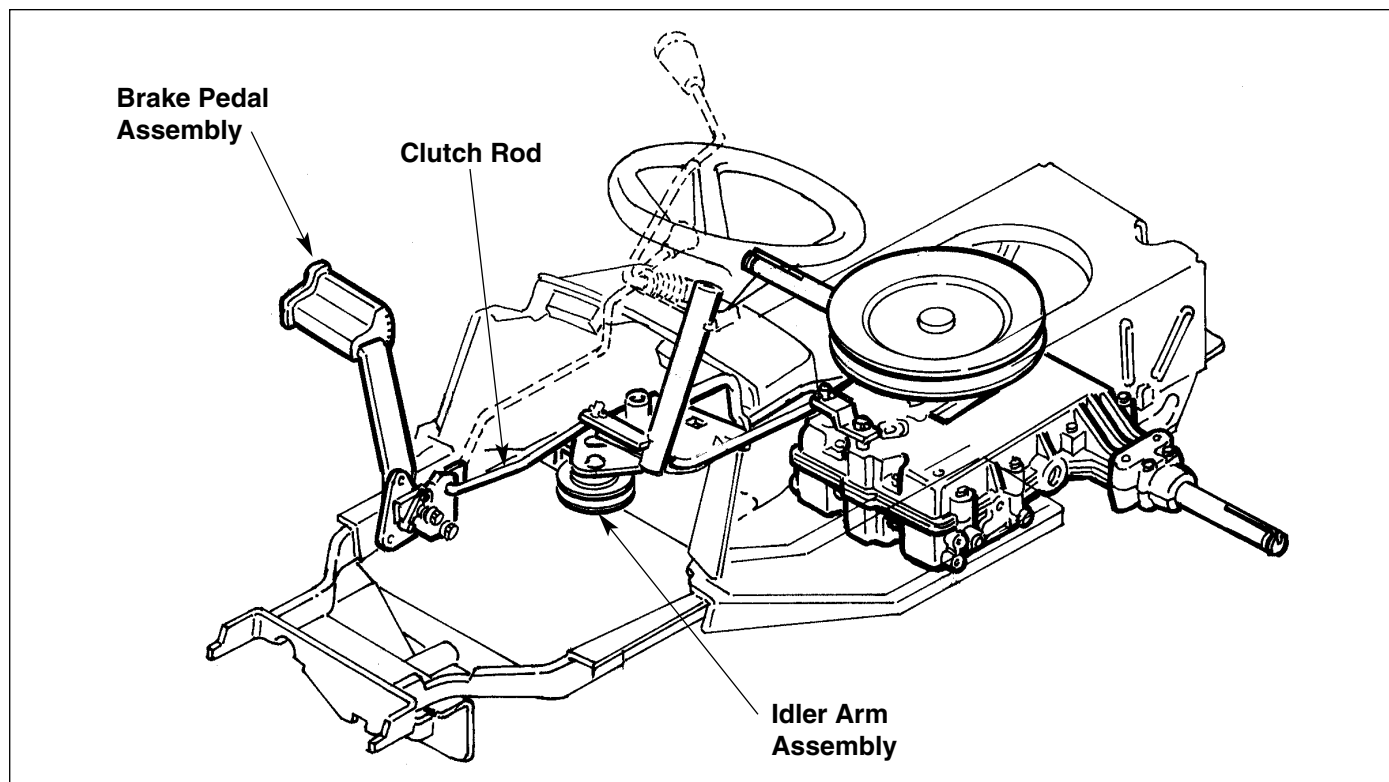

Figure C-3. Gear Foot Controls Group Typical Assembly
1. Remove the mower deck, and position the unit to permit safe access to the underside of the frame and the foot control assembly parts (See Figures C-3 through C-4 for approximate part locations.)